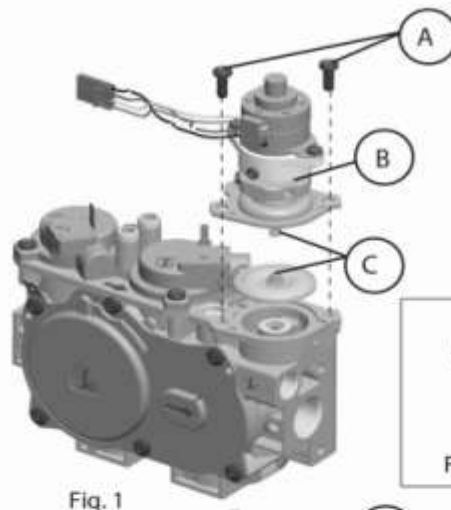

Fig. 1
- Pressure regulator assembly (E)
- Two (2) screws (F)
- Identification label (G)
- 2 See Fig. 1. Using a Torx T20, or slotted screwdriver, remove and discard the two (2) pressure regulator mounting screws (A), pressure regulator tower (B), and the spring and diaphragm assembly (C), (If applicable).